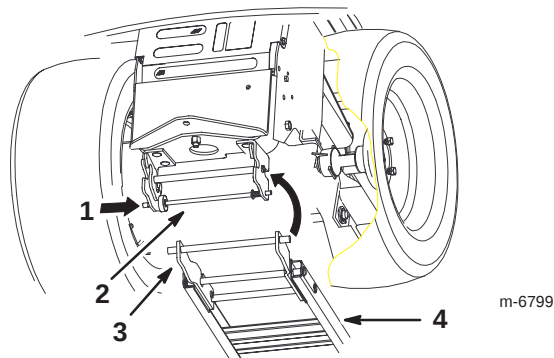

Figure 9
6. Push the end of the latch rod to open the latches on the rear Attach-A-Matic hitch (Fig. 9).
8. Close the latches (Fig. 9).